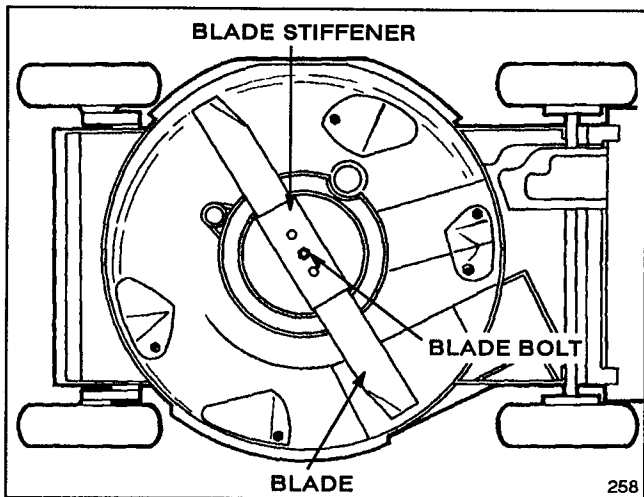

Figure 18
3. Tip mower on its right side (Fig. 18). Avoid rotating the blade because starting problems may result.
5. **REMOVING BLADE**—Grasp end of blade using a rag or thickly padded glove. Remove blade bolt, lockwasher, blade stiffener, and blade (Fig. 18).